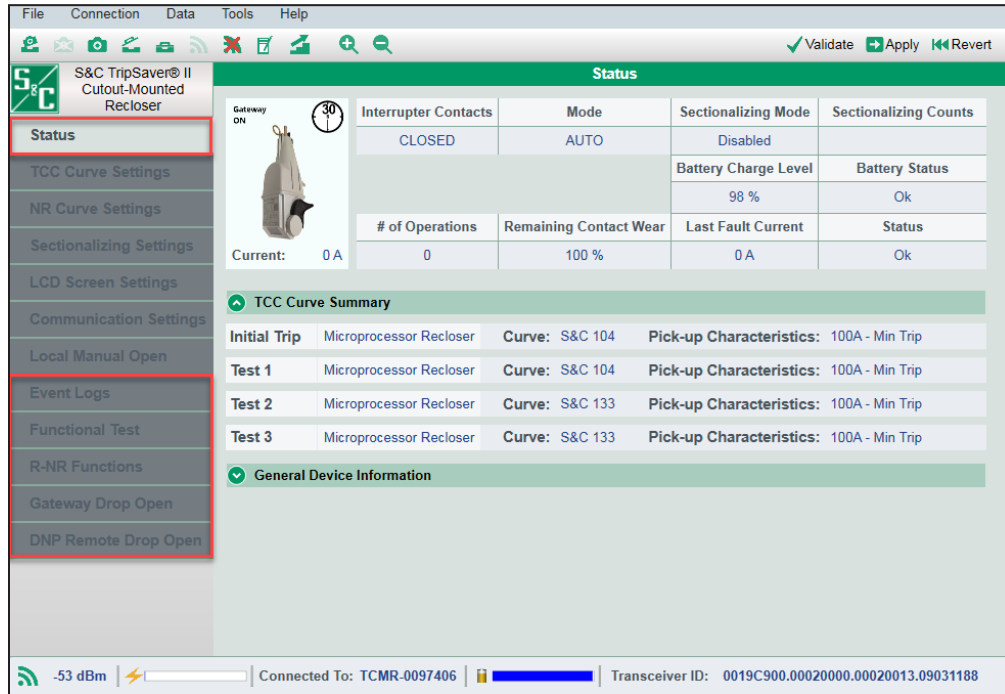

Figure 5. The Status screen in Connected mode.
STEP 4. Confirm the TripSaver II recloser is connected by clicking on the **Status** menu item. The *Status* screen will populate with data from the connected recloser. When in **Connected** mode, the service center software will display a **Signal Strength** icon at the bottom left of the screen. The signal strength will also be displayed numerically. See Figure 5.